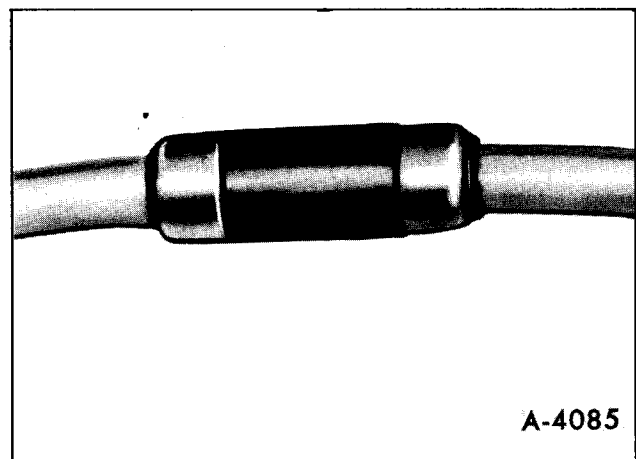

Figure 7—Air Line Repair Coupling
4. Air line leaks can be repaired with the coupling illustrated in Figure 7.